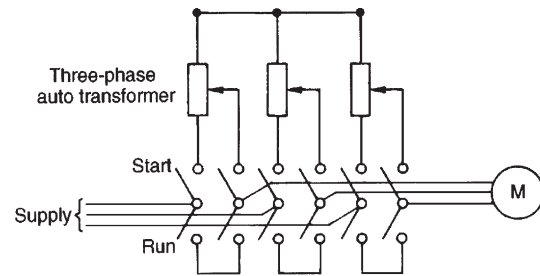

Figure 23.11
torque is seriously reduced (see equation (12)), so the voltage is reduced only sufficiently to give the required reduction of the starting current. A typical arrangement is shown in Fig. 23.11. A double-throw switch connects the auto transformer in circuit for starting, and when the motor is up to speed the switch is moved to the run position, which connects the supply directly to the motor.